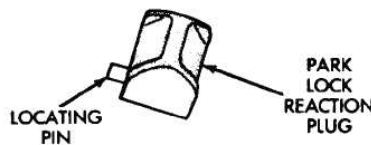

Fig. 69 Reaction Plug Locating Pin And Snap Ring
(13) Install park lock reaction plug. **Note that plug has locating pin at rear (Fig. 69).** Be sure pin is seated in hole in case before installing snap ring.